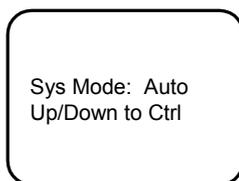
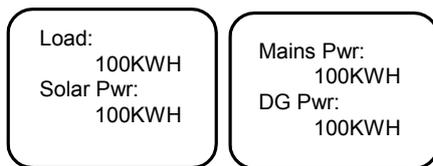

Figure 4-8 Sys Mode screen
Figure 4-19 Statistical information
2. Enter the correct password in the password confirmation screen; press the **ENT** key to confirm. If at this time 'battery parameters', 'basic parameters', 'management' has been set to 'Manual' (for the setting method, refer to 4.11.2 *Battery Settings*), the controller will skip the following step 3 and go directly to the Maintenance screen. Otherwise, if the battery management is 'automatic', the controller enters into the Sys Mode screen shown in Figure 4-8.
In the running information screen shown in Figure 4-8, press ▲ or ▼ to select the sub-menu **statistic**, Press the **ENT** key to enter the statistical information screen, as shown in Figure 4-19.
In the **STATUS** screen Shown in Figure 4-8, press ▲ or ▼ to select the sub-menu 'active alarm', Press the **ENT** key to confirm.